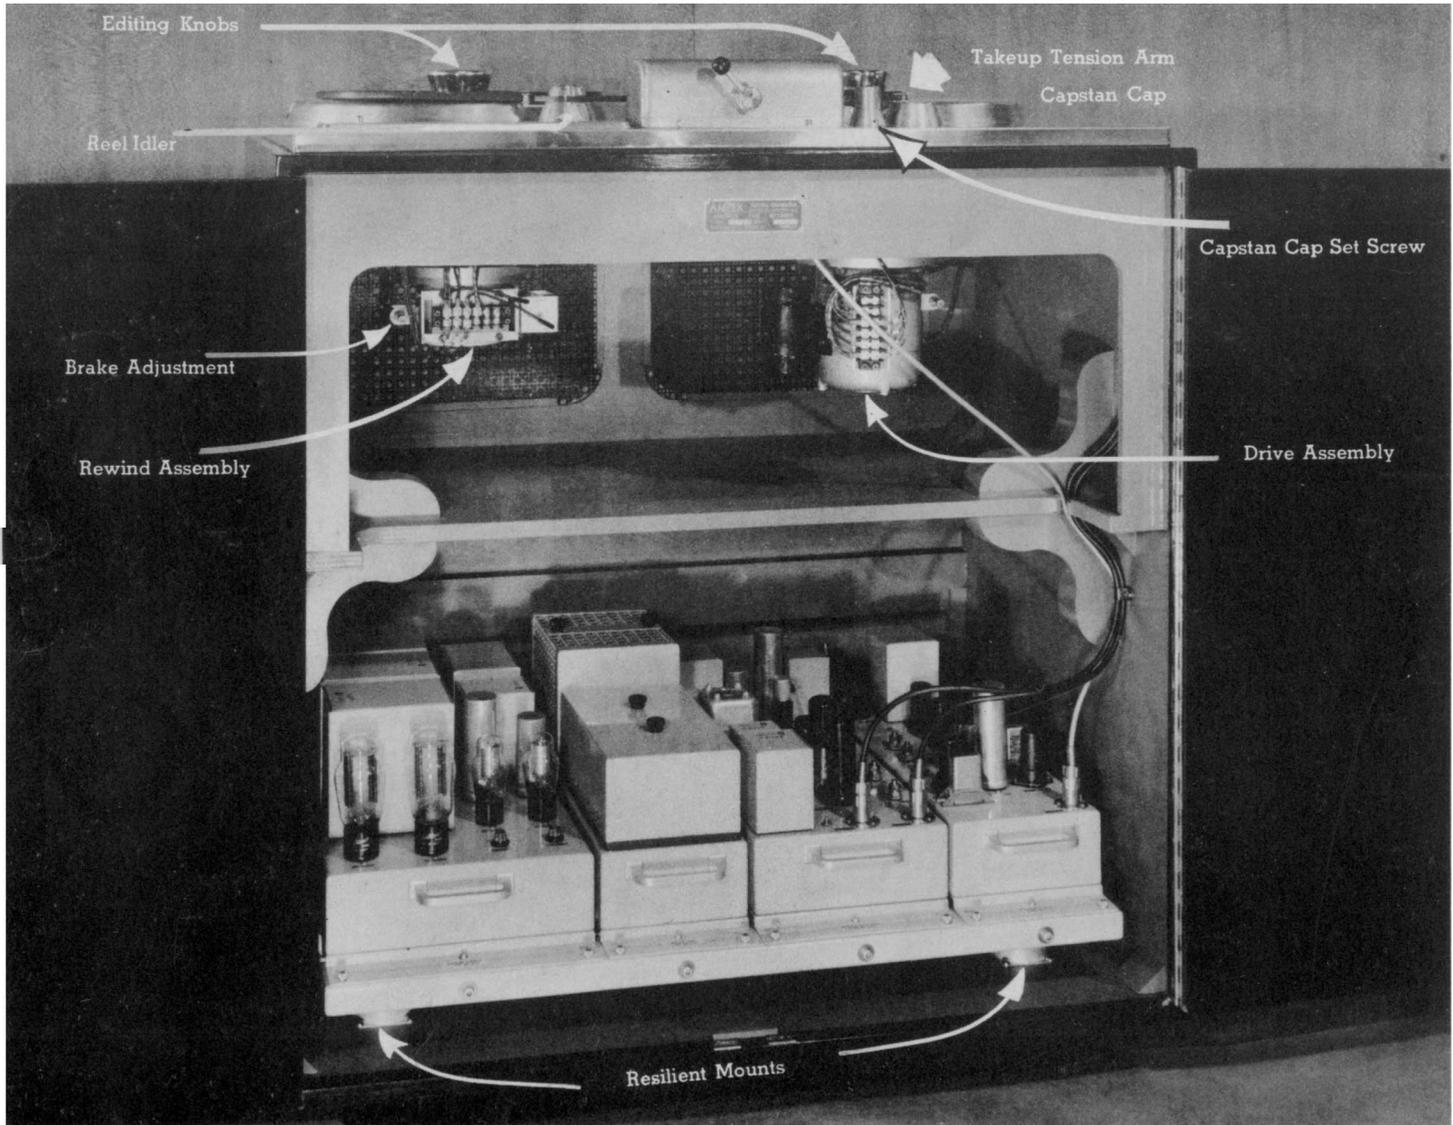

FIGURE 2
2. Capstan Tilt Adjustment. The drive assembly plate is attached to the main base plate at three points, two of the points being anchored on spherical surfaces and the third being spring loaded to allow vertical motion. The spring loaded one is the one on the right hand side when facing the drive assembly, and is pointed out in Fig. 2. Turning the locknut on this side adjusts the tilt of the drive assembly. This adjustment has been made to provide optimum tracking of the tape through the drive system. When properly aligned, straight tape should wind in the middle of the reel hub  $1/16$  inches above the reel flange. If changes in this adjustment are made, the alignment of the playback head should be re-checked, as the angle at which the tape passes over the playback head may be affected. The record head is not affected by this adjustment.
3. Capstan Idler Pressure Adjustment. The shaft to which the capstan idler arm is attached is held in a clevis below the mounting plate, as may be seen in Fig. 6. Loosening the clevis as shown in Fig. 2 allows the arm to be rotated. To make this adjustment, the idler is held firmly against the capstan at the same time that the solenoid is seated, and the clevis tightened at this point. Care must be taken to insure that the solenoid is seated. On machines of serial numbers 1 to 22, inclusive, the solenoids have a double winding, and seating the solenoid disconnects one of the windings. If the pull-in winding is allowed to remain on, the solenoid will draw excessive current and overheat. The capstan idler must be firmly clamped against the capstan shaft during playing, or the system will be seriously subject to disturbances on the rewind reel, tension arm, or idler.
1. Lubricate capstan shaft bearings by the application of a small Alemite hand gun to the fitting provided (See Fig. 2). Use only Lubriplate No. 105 grease, Fisk Brothers Refining Company, Newark, New Jersey. Pump gun until grease discharge appears at pressure relief hole near Alemite fitting. This procedure applies to all recorders beginning with Serial No. 21. For all recorders with serial numbers preceding No. 21, the capstan shaft bearings are lubricated by filling the oil cup provided with Lubriplate No. 4 Oil, Fisk Brothers Refining Company.